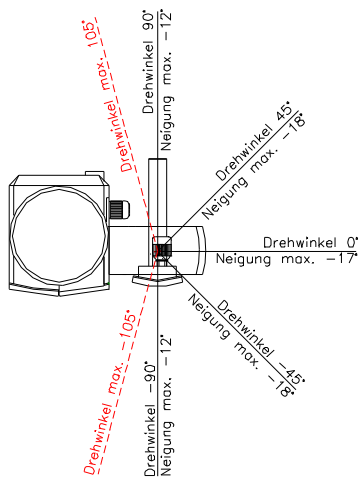
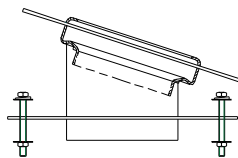

Fig. 3
Fig. 4
- 2.) When erecting the boiler make sure that the fuel auger is fitted on the right of the boiler and can only be turned approx. 90° forwards or backwards (Fig. 3).
- 3.) The storeroom should not be significantly lower down than the boiler room. The maximum possible inclination angles for the outfeed auger are shown in Fig. 3. With the optional fuel chute extension (Fig. 4, Art. no. PH030-9-200-0) inclinations of up to 23° can be achieved. In such cases, the storeroom must be adapted to the slope of the agitator.